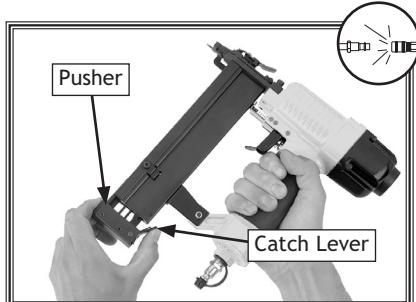

Figure 3. Sliding magazine pusher back and engaging catch lever.
2. Grip the stapler firmly, unlock the catch lever (Figure 3) and pull the magazine pusher back